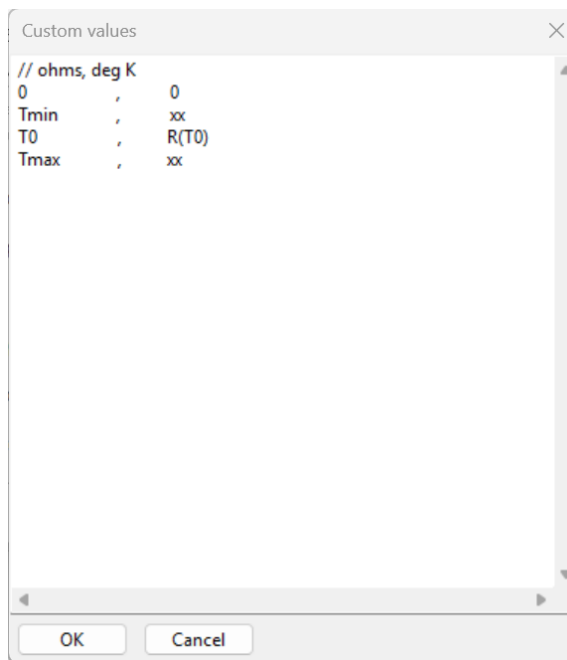

Figure 4. Copper Trace Sensor Custom Data Table
- In the configuration window, click the notepad icon next to **copper trace – custom values**. A window appears as shown in Figure 4.
11. Enter all data pairs into the table. See the example in Figure 4.